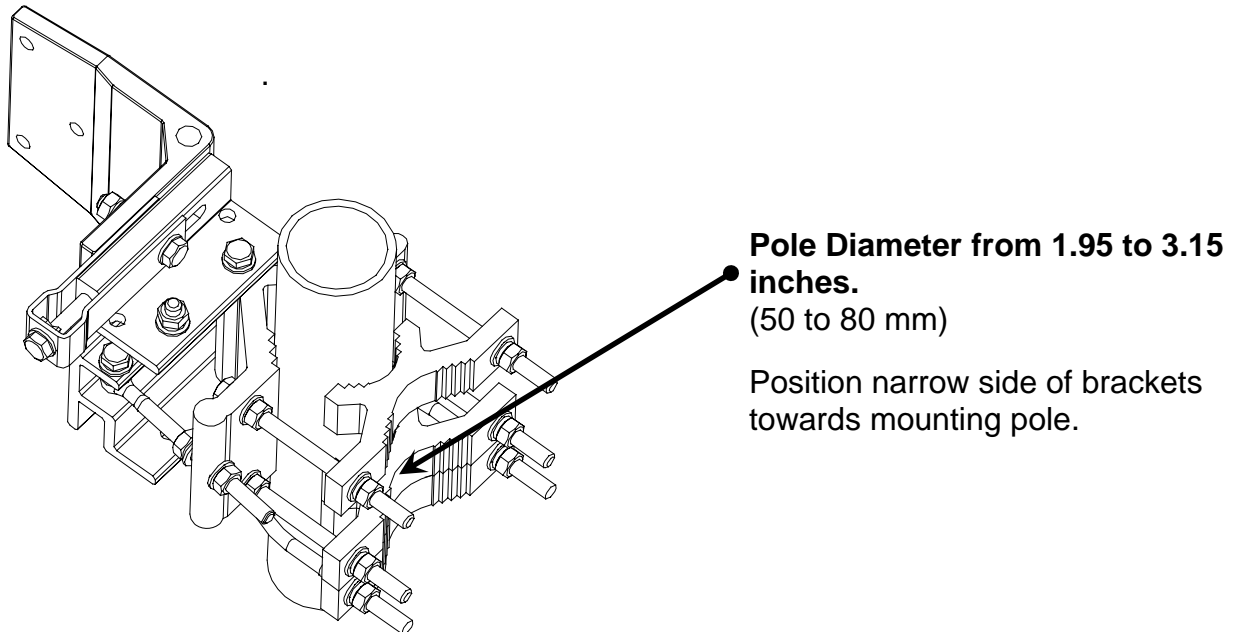

Figure 4 – Bracket Arrangement for small diameter poles
Step 3: Mount the entire antenna assembly on the Pole. **Pole Brackets are reversible** to allow for different pole diameters as shown in Figures 4 and 5. Ensure that the mounting bracket is installed above the anti-slide bracket as shown for safety.